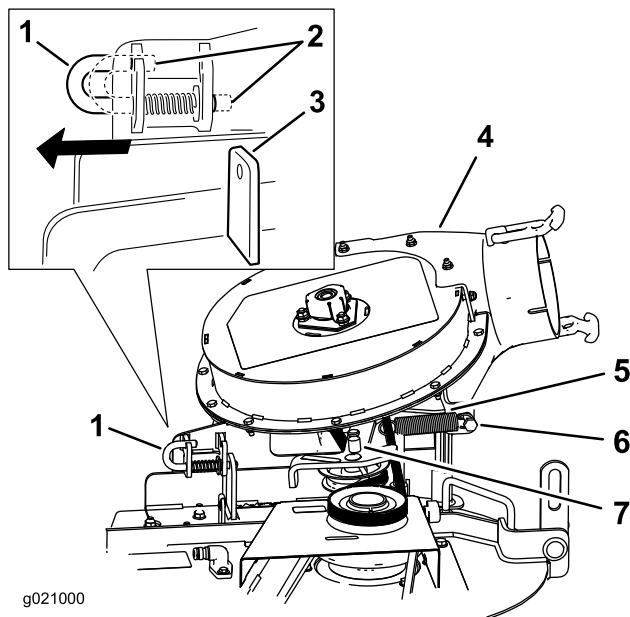

Figure 16
3. Move the latch pin from the locking position to the open position (Figure 16).
5. Move the latch pin to the locking position (Figure 16).
Note: Ensure that the latch pin extends through the hole in blower support (Figure 16).
- Install the spring on to the idler pulley post (Figure 16).
- Install the spring on to the shoulder bolt (Figure 16).